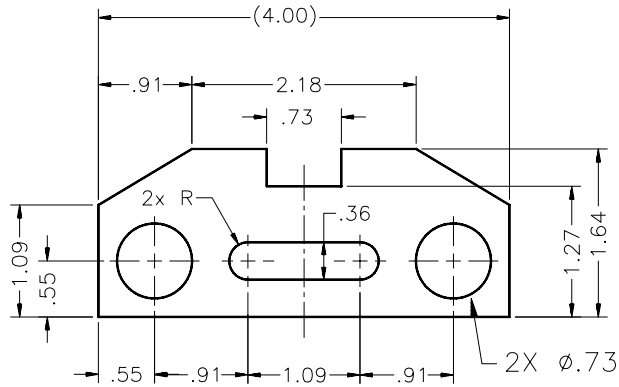
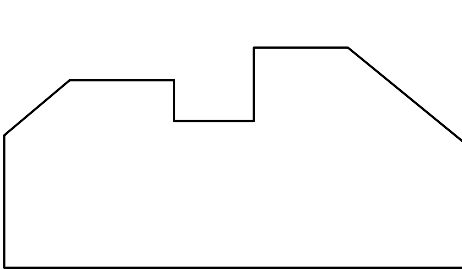

Figure 11-7 Sketch for Example 1
Figure 11-8 Outer loop of the sketch
Draw the sketch shown in Figure 11-7 and apply appropriate constraints to it. Do not dimension the sketch.
1. Start a new file with the *acad.dwt* template in the **2D Drafting & Annotation** workspace and draw the outer profile similar to that shown in Figure 11-7. Make sure that the endpoints are snapped so that they form a closed sketch, as shown in Figure 11-8.